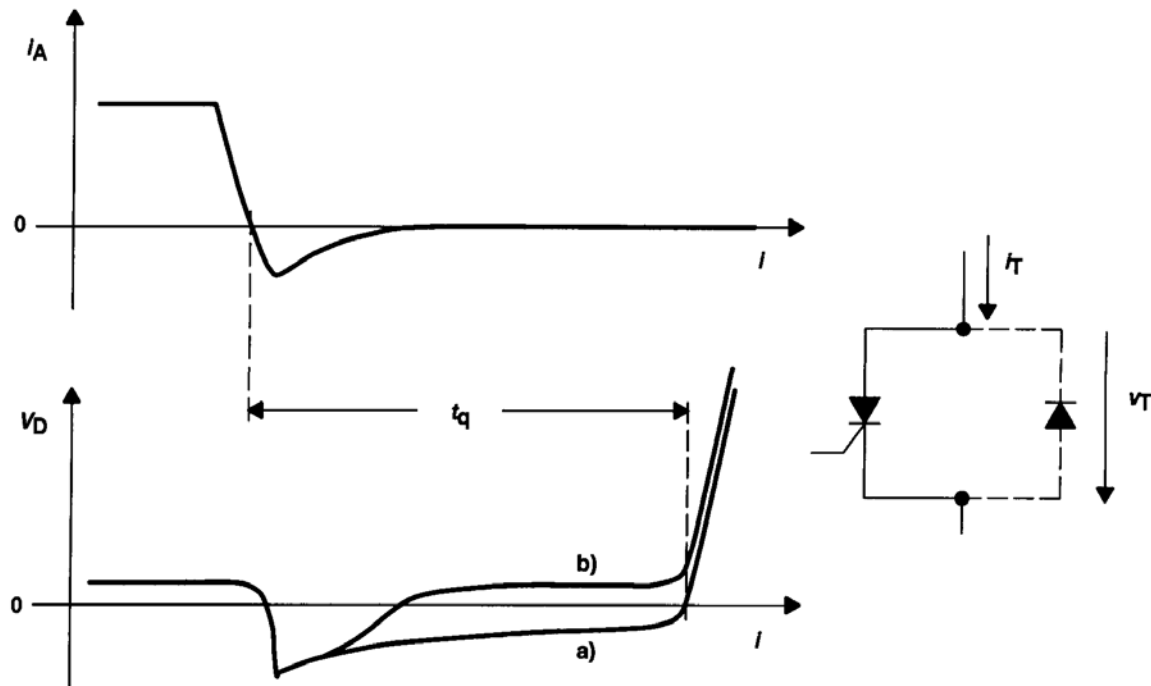

Figure 6-13 — Circuit-commutated turn-off time
t_q **circuit-commutated turn-off time:** The time interval between (1) the instant when the on-state current has decreased to zero after external switching of the main circuit, and (2) the earliest instant when a steeply rising off-state voltage that the thyristor is capable of supporting without breaking over either passes through zero (waveform “a” in Figure 6-13) or begins from a low positive value (waveform “b” in Figure 6-13).